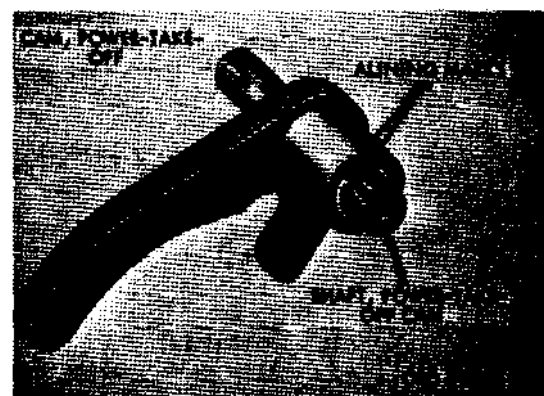

Figure 96. Power takeoff cam to shaft aligning marks
- (g) Power takeoff cam and power takeoff camshaft (fig. 96) should also be marked to facilitate assembly. Press camshaft from power takeoff cam.
- (1) Install cams, levers, and shafts in control relay housing.
- (a) Position power takeoff camshaft in power takeoff cam (fig. 96), making sure aligning marks are indexed. Press shaft into cam so that ends of serrations on shaft will be flush with hub of cam.